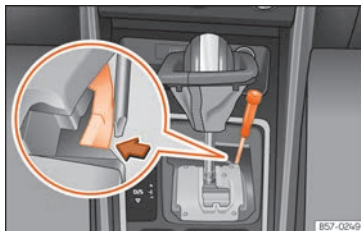

Fig. 155 Gear selector lever: manual release from the parking position.
- Using the flat part of a screwdriver, press the yellow tab sideways and keep it pressed down **Fig. 155**.